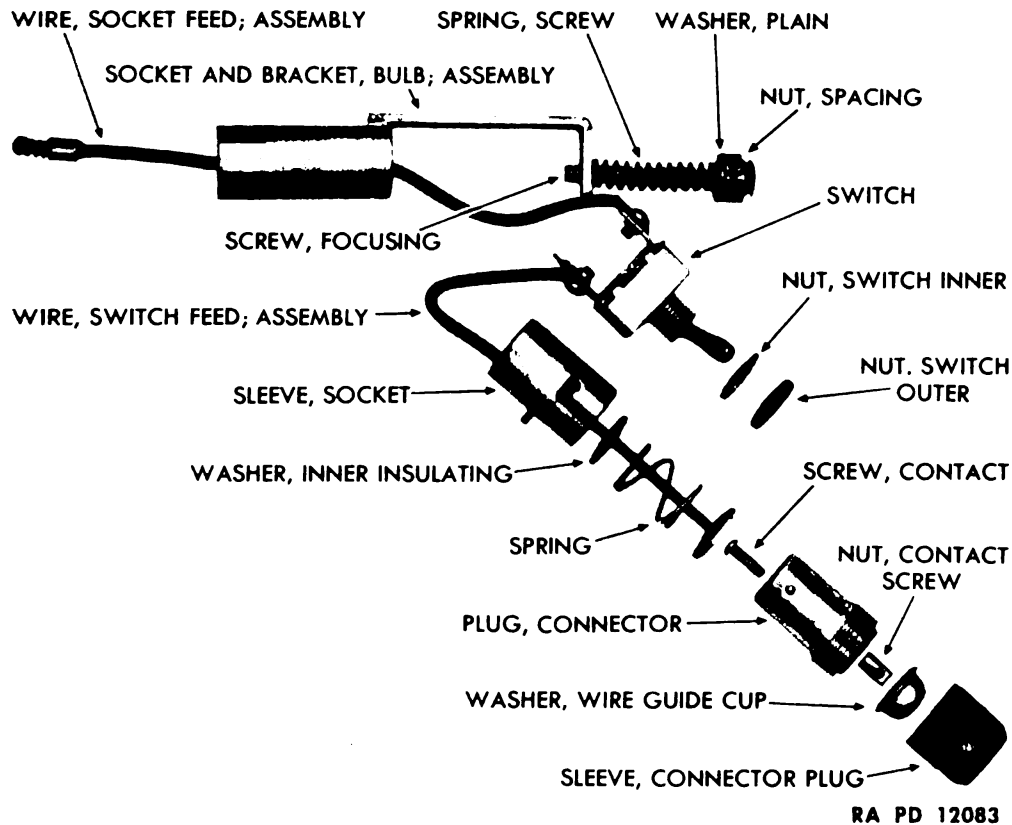

Figure 224—Searchlight Mechanism
(b) Unscrew connector plug sleeve from connector plug. Remove contact screw from end of connector plug and pull wire (with contact screw nut) out of connector plug. Slide connector plug sleeve off wire and remove guide cup washer from sleeve (fig. 224).
(a) Remove switch outer nut from outside body assembly and push switch into body assembly (fig. 224).
(b) From inside of body remove 2 screws which secure wires to switch (fig. 224).
(c) Lift switch from body assembly and then remove switch inner nut from switch (fig. 224).
(a) From outside of body assembly, pull switch feed wire assembly out of body assembly. Slide inner insulating washer and spring from switch feed wire (fig. 224).
(b) From inside of body assembly, pull the socket sleeve from body assembly (fig. 224).
(c) From inside of body assembly, unscrew bulb socket and bracket assembly from focusing screw. Lift focusing screw spring, plain washer, spacing nut off the focusing screw. From outside of body assembly pull focusing screw out of body assembly (fig. 224).
(d) Pull socket feed wire assembly out of bulb socket (fig. 224).
(a) Push focusing screw through its hole in rear of body. Slide spacing nut, plain washer and focusing screw spring on focusing screw (fig. 224).
(b) Screw bulb socket and bracket assembly on focusing screw (fig. 224).
(c) Install socket sleeve in body. Then slide spring and insulating washer on switch feed wire and install switch feed wire into the body (fig. 224).
(a) Screw switch inner nut on switch and insert switch through body and install switch outer nut on switch (fig. 224).
(b) Install 2 wires on switch and fasten with 2 screws (fig. 224).
Place wire guide cup washer (dish-shaped side toward large end of sleeve) in connector plug sleeve. Slide connector sleeve on wire and place wire (with contact screw nut) in connector plug. Install contact screw in end of connector plug (fig. 224).
(2) Insert connector plug into socket in body assembly, push down and turn clockwise 1/8 turn (fig. 224).
(3) Repeat steps (1) and (2) above to install other searchlight.
b. Procedure. Turn on searchlights. Focus to desired breadth of beam by turning the focusing screw in or out on each searchlight (fig. 224).